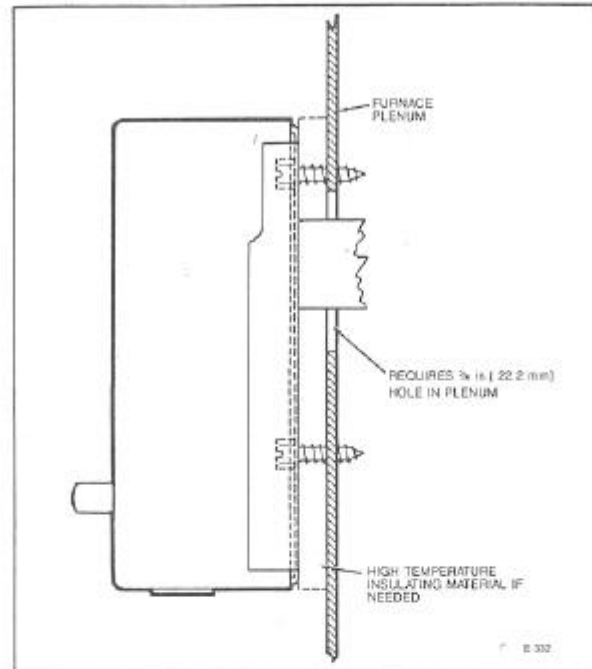

FIG. 2 — FLUSH MOUNTING ON VERTICAL SURFACE.
4. For flush mounting, fasten with screws through mounting holes on rear of controller (Fig. 2).